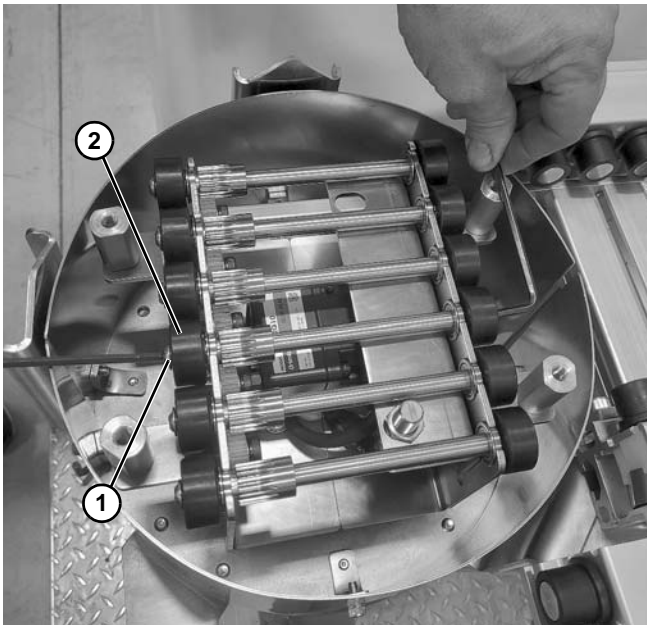

Figure 135
3. Remove screw (Figure 135, item 1) from roller (Figure 135, item 2) on turn and transfer assembly.